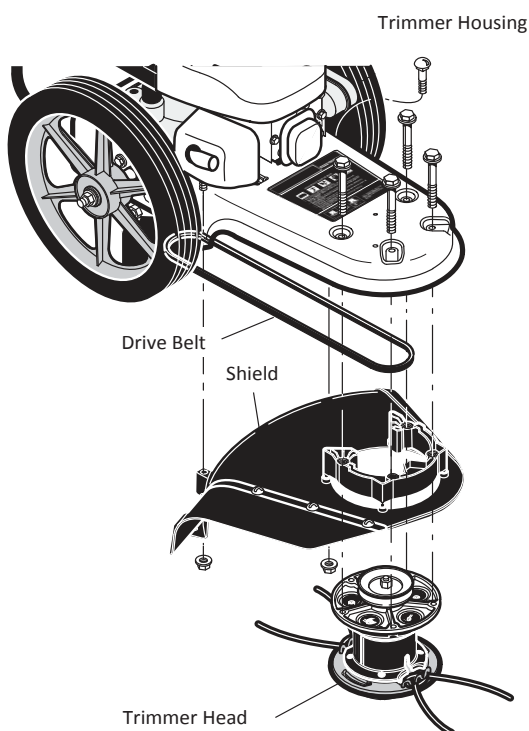

Figure 16
7.6.1.1 Remove the two fasteners that hold the rear shield to the trimmer housing (See Figure 16).